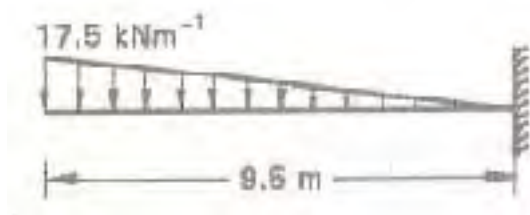

Figure 7b
- (b) Develop Bending moment and Shear force diagrams for the figure 7b given below indicating the maximum and minimum values. [8+7]